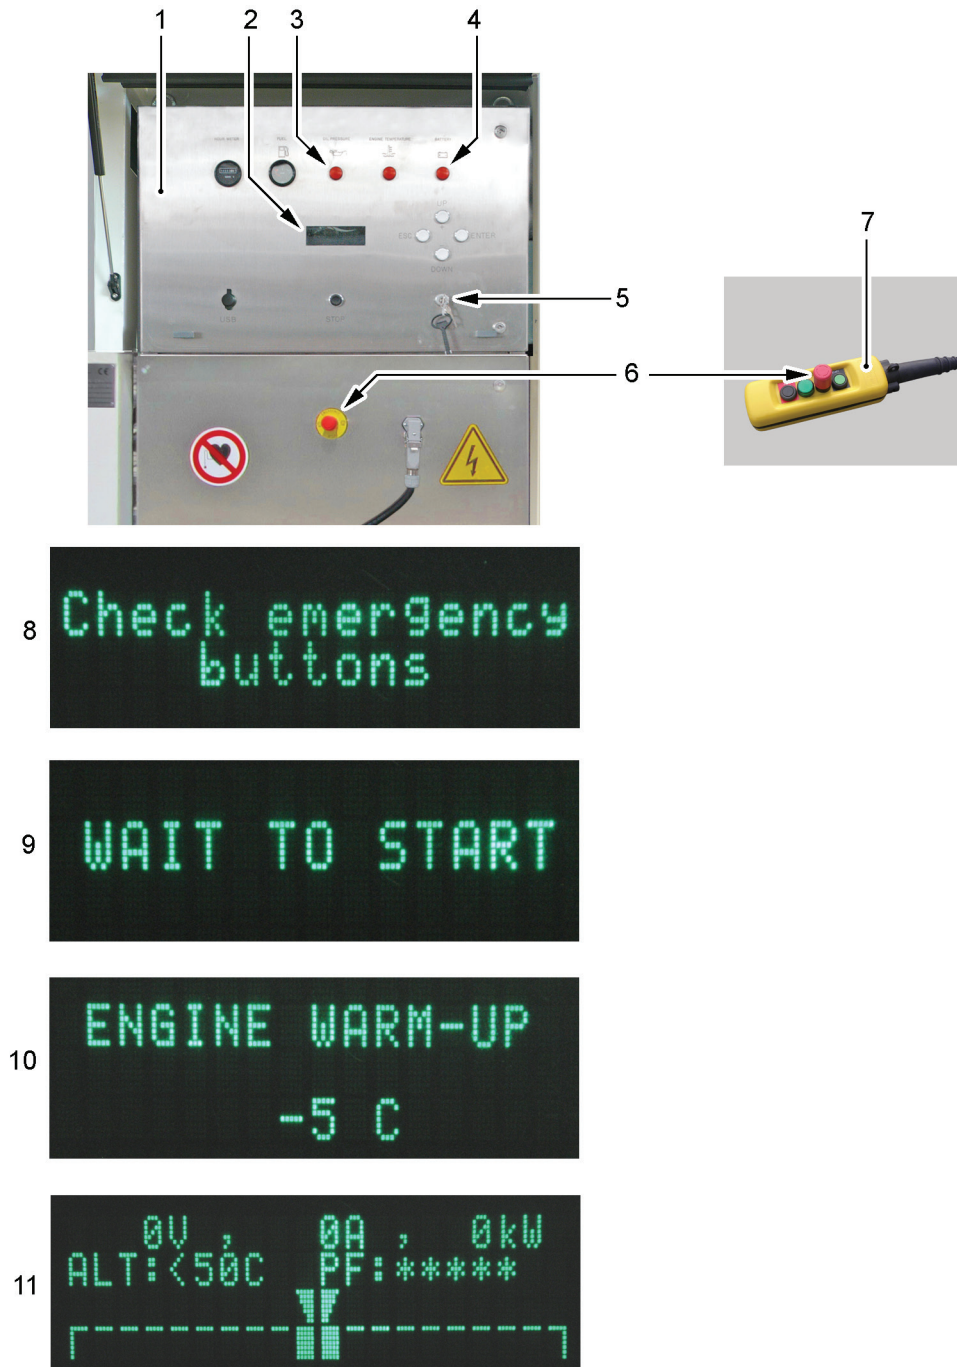

Figure 6.12 - Preliminary operations
- 3) Insert the key (see Figure 6.12/5) into the ignition commutator situated on the command and control panel (1) and turn it clockwise, up to notice the first click.
- 4) The display will show the message **“Check emergency buttons”** (see Figure 6.12/8). Check that the **“EMERGENCY STOP”** (6) present on the command and control panel (1) and on the remote control (7), respectively, are not actuated.
- 5) If the ambient temperature is cold the display will show the message **“WAIT TO START”** (see Figure 6.12/9). At the subsequent display it is possible to start the engine.
- 6) If the engine temperature is lower than the value set in the parameter **“Warm-up Engine Temp.”** the engine will rotate at the **“Warm-up Speed”** disabling the possibility of starting the heating cycle (see Figure 6.12/10).
- 7) After the previous step the display will show the page with the induction heating function parameters (see Figure 6.12/11).
- 3) Turn again the key (see Figure 6.12/5) clockwise and start the engine. By idle-running engine, the following signalings must get off:
- engine alternator warning light (4);
- engine oil low warning light (3).
- 4) After having started up the generator, check that on the command and control panel (see Figure 6.12/1), no type of alarm message is displayed, particularly those coming from the engine control system, that signal: